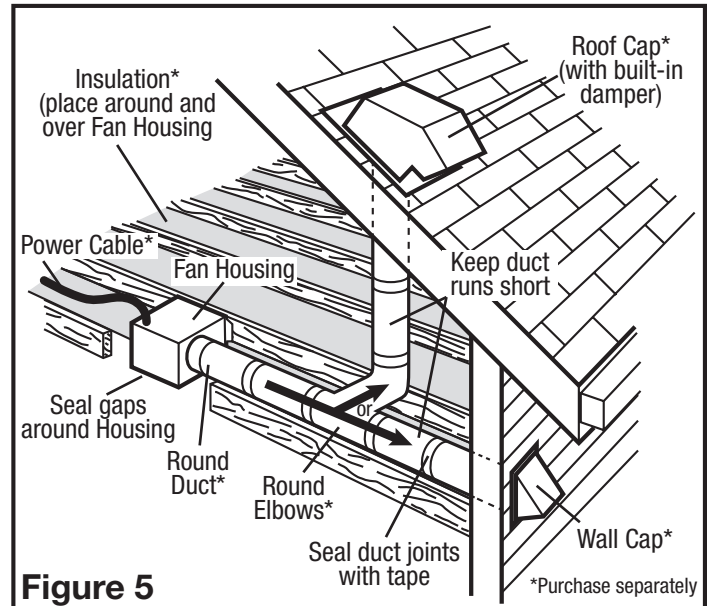

Figure 5
2. Ensure duct joints and exterior penetrations are sealed with caulk or other similar material to create an air-tight path to minimize building heat loss or gain and to reduce the potential for condensation. Place/wrap insulation around duct and/or fan in order to minimize possible condensation buildup within the duct, as well as building heat loss or gain (**Figure 5**).